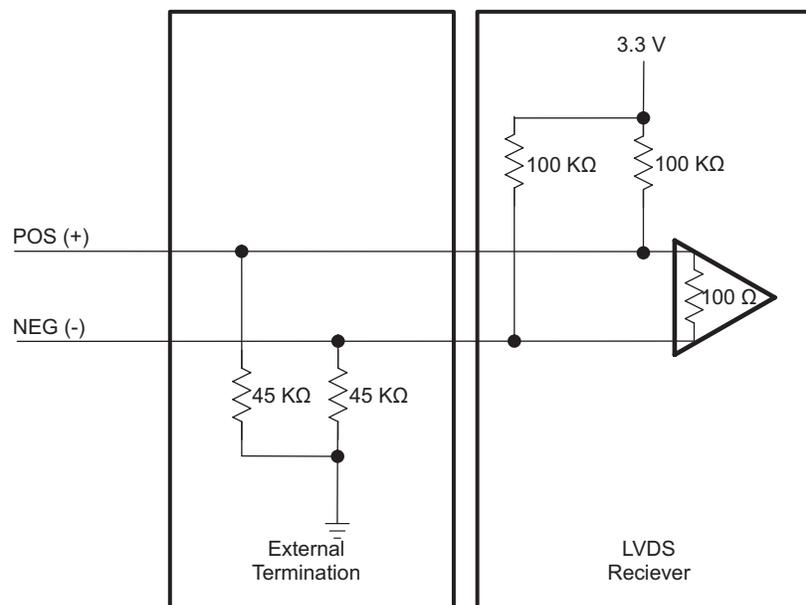

Figure 5. External Terminations: Receiver With $100\ \Omega$ and Pull-Ups
- If the LVDS receiver includes $100\ \Omega$ terminations and internal pull-ups (sometimes used for fail-safe), use the type of termination shown in Figure 5. Adjust the external resistor values based on the V_{CC} and internal resistors in order to generate a bias voltage of 1.0 V to 1.2 V.